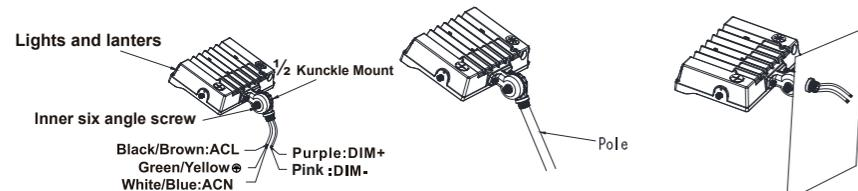
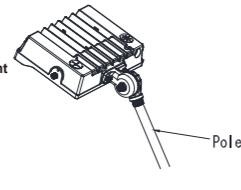

figure 1.3
figure 1.4
Step 2: Finish the wire connection according to the right mode of connection (pay attention to positive wire, negative wire, and ground wire), (figure 1.3). and then put wire into lamp pole; (figure 1.4)